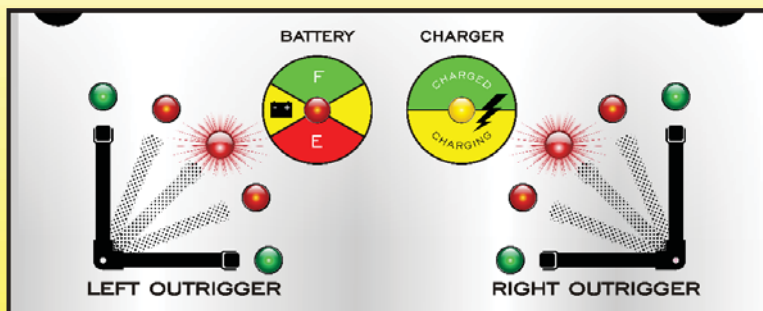

Figure 19 Battery Lockout Mode LED Indicators
the same time as shown in figure 19. Before using the UniLift for the first time, plug an extension cord into the charger's power cord and allow the batteries to completely charge. The "Charging" LED will glow green when the batteries are fully charged. The UniLift is now ready for use. Before using the UniLift, make sure you are familiar with the SAFETY INSTRUCTIONS, the OPERATING INSTRUCTIONS and are TRAINED. Only trained and authorized personnel shall be permitted to operate a UniLift.
UniLift in Service Mode/ LED indication – The UniLift operates using a series of switching and coordinating movements. The UniLift control system is programmed to enter Service Mode in the event the UniLifts program sequence has been compromised. In the event the UniLift enters Service Mode all six (6) red LEDs inside the arc of the right and left banks will illuminated continuously as shown in Figure 19. The UniLift will not operate in Service Mode. Remove the UniLift from service and have a qualified technician troubleshoot and perform service. Contact Bishamon Industries for assistance in troubleshoot and service.